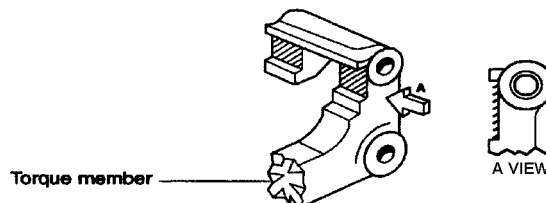

Figure 1
2. Remove any oil or grease from the torque member in the area that supports the retainer, be careful not to get any solvents on the rubber parts. See figure 1.